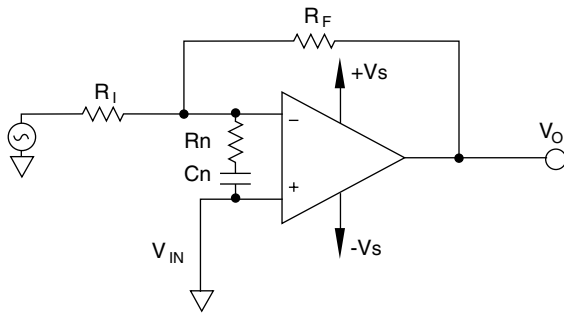

FIGURE 24. INPUT R-C NETWORK COMPENSATION
Solution: Raise gain or use input R-C compensation network. See Figure 24.
Solution: Increase C_c or increase gain and/or use input R-C compensation network. See Figure 24.
- 5) Increase AC gain only with noise gain compensation as shown in Figure 24 (next page). This technique works well with inverting circuits but is not recommended for non-inverting circuits.